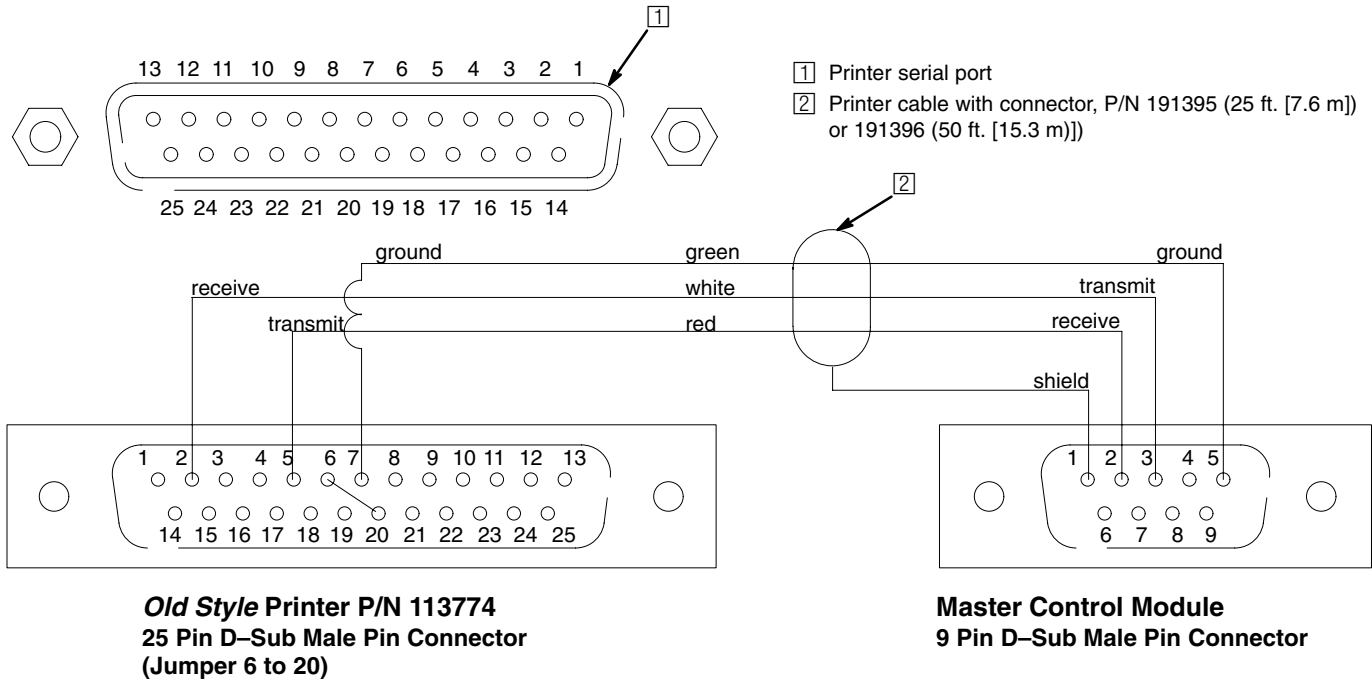

Fig. 12
*Old Style Printer:* Set the DIP switches on the bottom of the printer as shown in Fig. 12. Route and connect the printer cable between the printer and the Master Control Module connectors. Use the printer cables shown in Fig. 12.